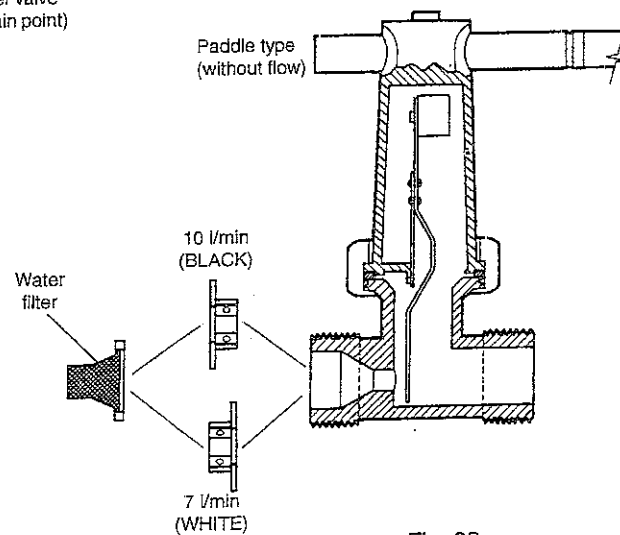

Fig 38
- Re-assemble in reverse order, ensuring that the filter, flow restrictor and sealing washers are in the correct position (fig. 38). The polarity for the electrical wiring is immaterial.